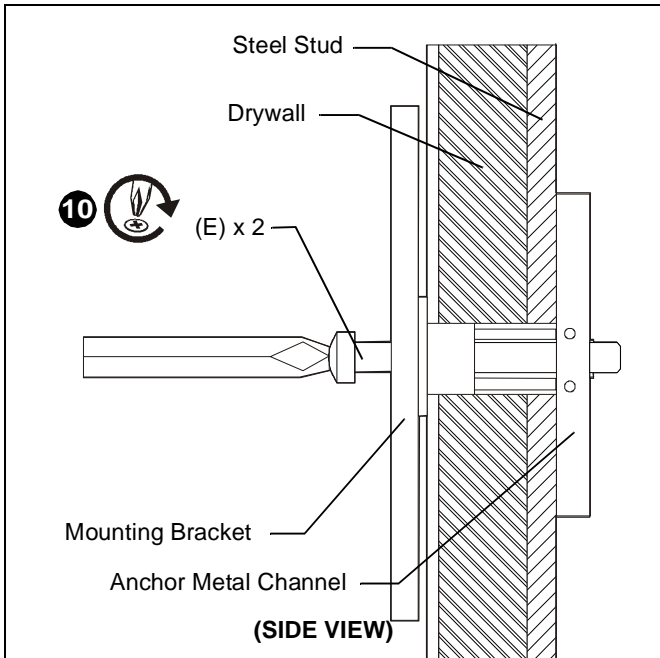

Figure 14
9. Place mounting bracket over anchors and align mounting holes in mounting bracket with holes in anchors. (See Figure 14)
10. Insert 1/4-20 x 1-3/4" Phillips pan head screw (E) into mounting hole on mounting bracket and into anchor (B) and tighten until flush against mounting bracket. DO NOT overtighten! (See Figure 14)